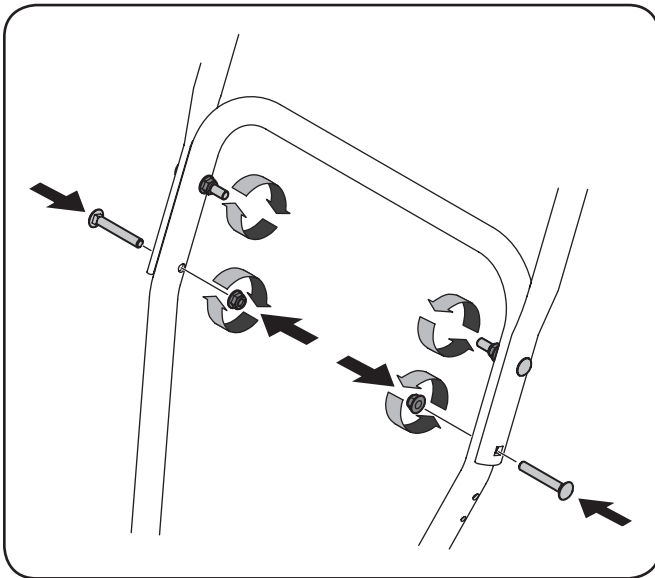

Figure 3-14
5. Reattach the two carriage screws and lock nuts removed earlier as shown in Figure 3-14.